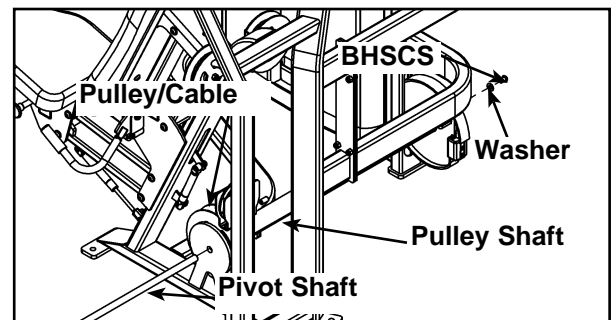

Figure 3
G. Remove one of the two BHSCS (Button Head Socket Cap Screws) securing the pivot shaft. See Figure 3.
H. Carefully remove pivot shaft and pulley shaft. See Figure 3. **NOTE:** Be extremely careful when removing shaft so you don't ruin the threads on the shaft.
L. Carefully attach pulley shaft using the pivot shaft and BHSCS removed in steps 4G and 4H. See Figure 3.